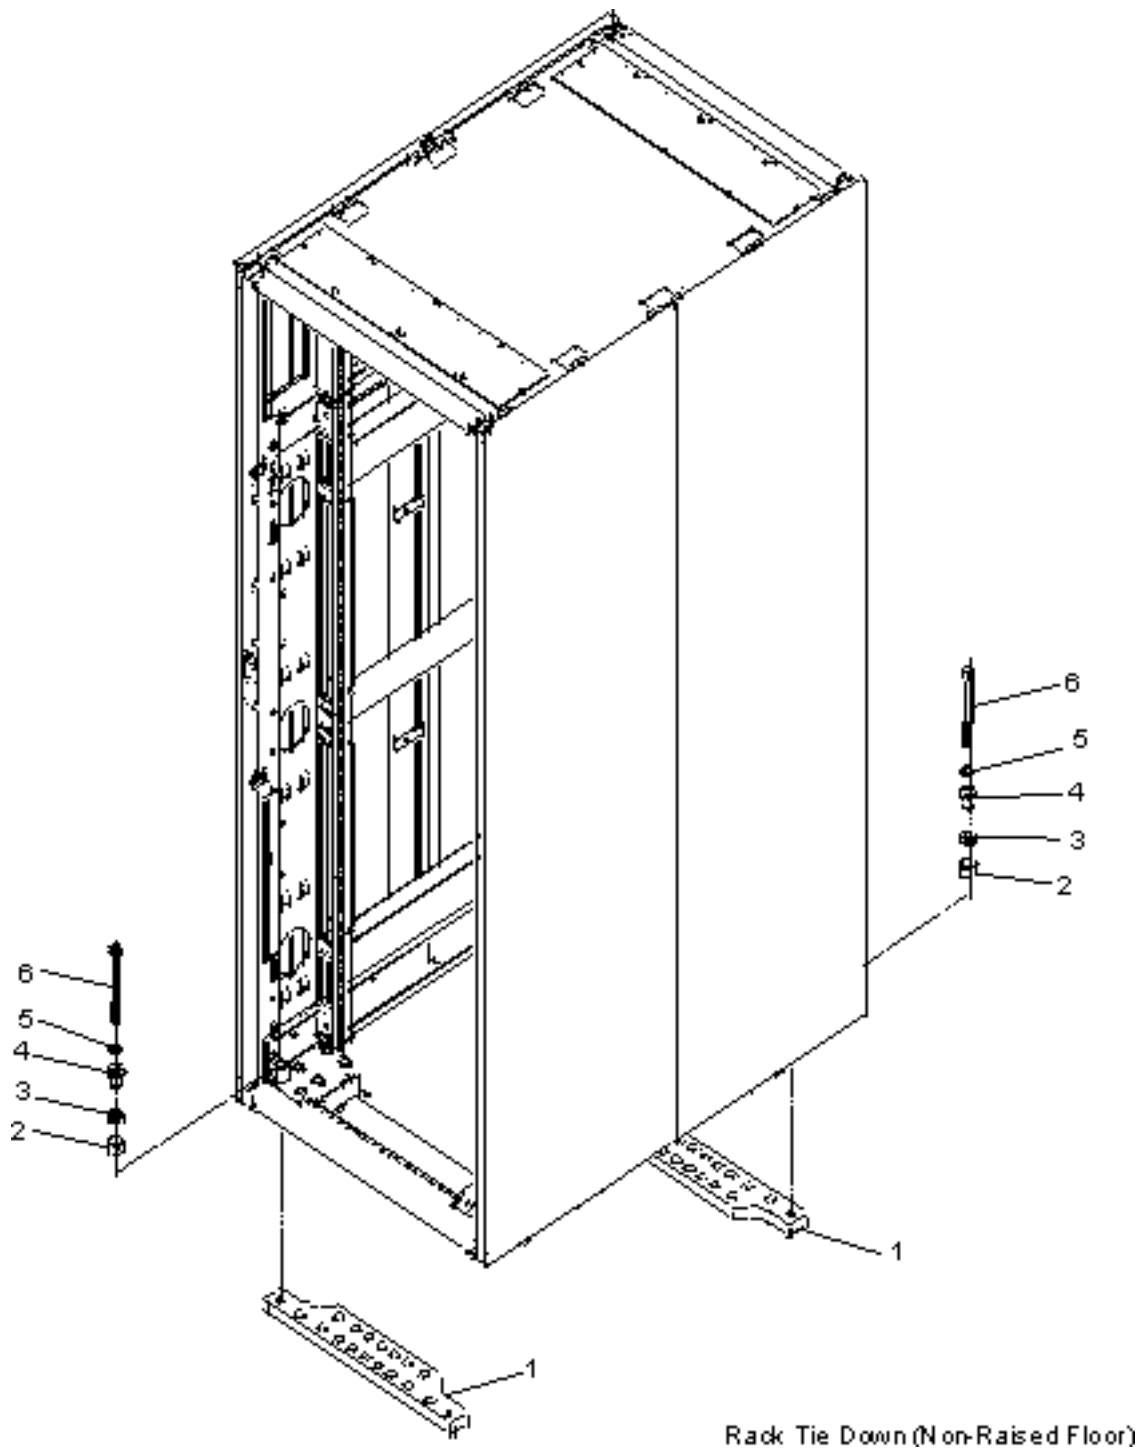

Figure 7. Rack tie down (nonraised floor)
2. Place the mounting plates (item 1 in Figure 7), front and rear, in the approximate mounting position under the system rack.
- a. Place the four rack-mounting bolts (item 6 in Figure 7) through the plate assembly holes at the bottom of the rack. Install the bushings and washers (item 4 and 5 in Figure 7) to ensure bolt positioning.
- b. Position the mounting plates (item 1 in Figure 7 on page 67) under the four rack-mounting bolts (item 6 in Figure 7 on page 67) so that the mounting bolts are centered directly over the tapped holes.
- c. Turn the rack-mounting bolts (item 6 in Figure 7 on page 67) three or four rotations into the tapped holes.